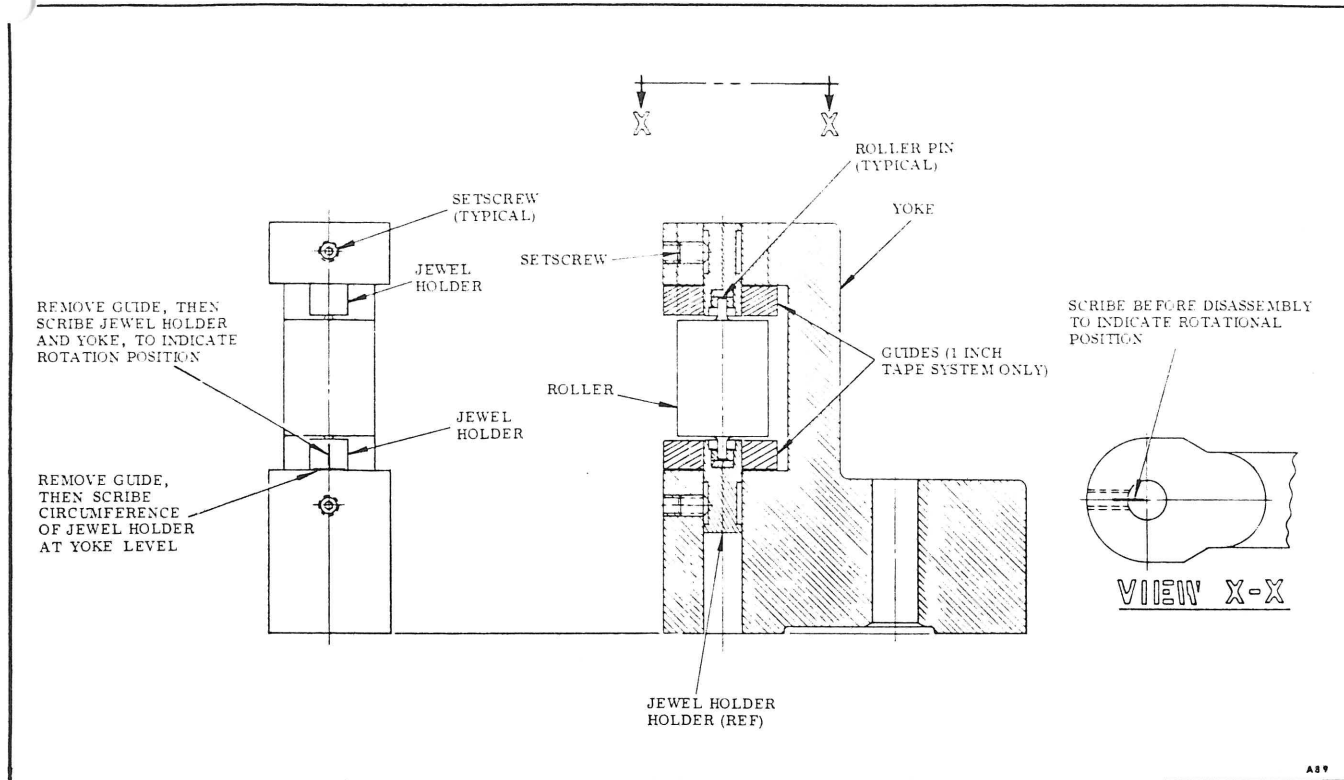

Figure 4-1. Scribe-Flutter Idler
#### 4-10 IDLER YEARLY LUBRICATION (See Figure 4-1)
b. To indicate correct positioning scribe-mark the holder at the set-screw centerlines (see Figure 4-1); upper holder on the top circular surface, and the lower holder on the periphery.
b. Align the scribe-marks with the centerline of the setscrews as shown in Figure 4-1 and slide each holder into place.